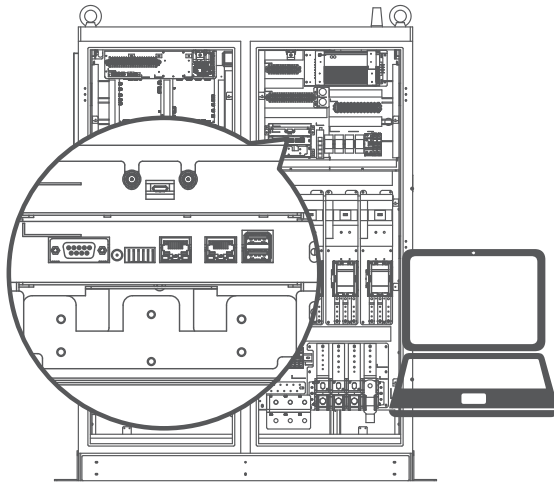

Figure 26. RJ-45 Port
- Connect an RJ45 cable. See Figure 26.